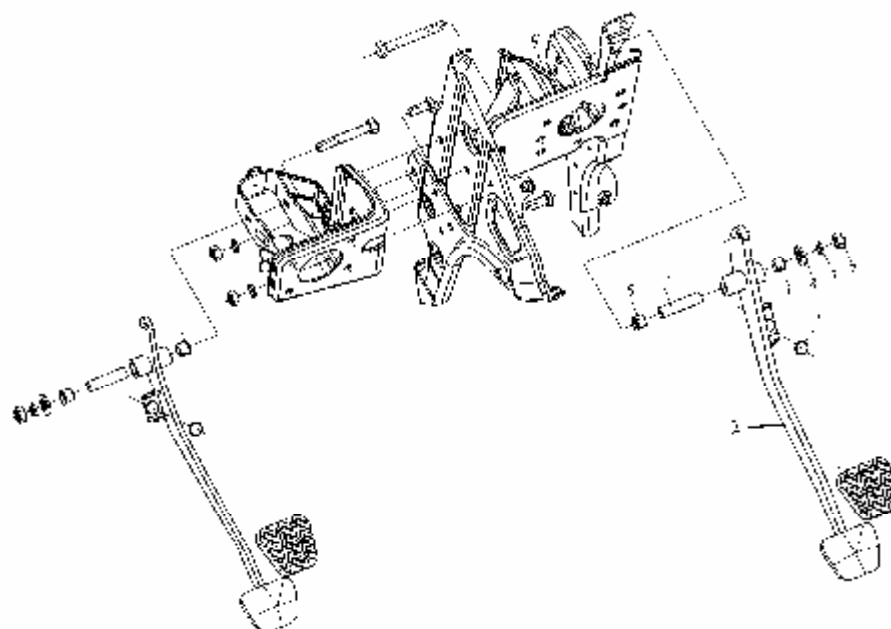

Figure 7-8-7 Brake pedal assembly
Vacuum check valve is mounted inside brake pipeline. It is a important part to retain vacuum inside booster. Brake pedal mechanism (figure 7-8-7) consists of pedal bracket assembly(7), pedal arm assembly (7), pedal shaft (1), brake light switch assembly(12) and pedal return spring (16). Pedal operating mechanism and booster are mounted inside driver cab. When pedal is depressed, vacuum booster activates master cylinder and produces hydraulic pressure inside pipeline system. The pressure expands brake shoe via wheel cylinder to press on brake drum.